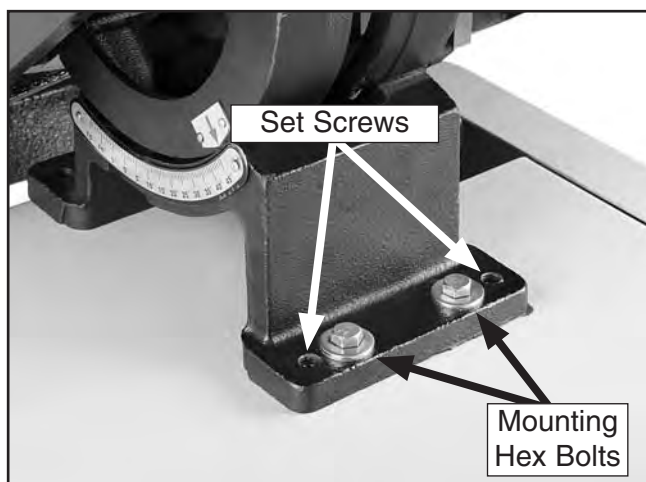

Figure 54. Table mounting hex bolts and adjusting set screws.
- Use a 12mm wrench to loosen the table mounting hex bolts (see **Figure 54**).